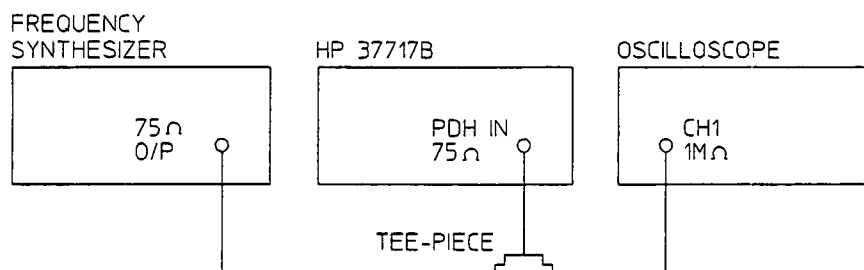

Figure 3-23. PDH Receiver Monitor Levels Test Setup
2. Connect up the equipment as shown in Figure 3-23.